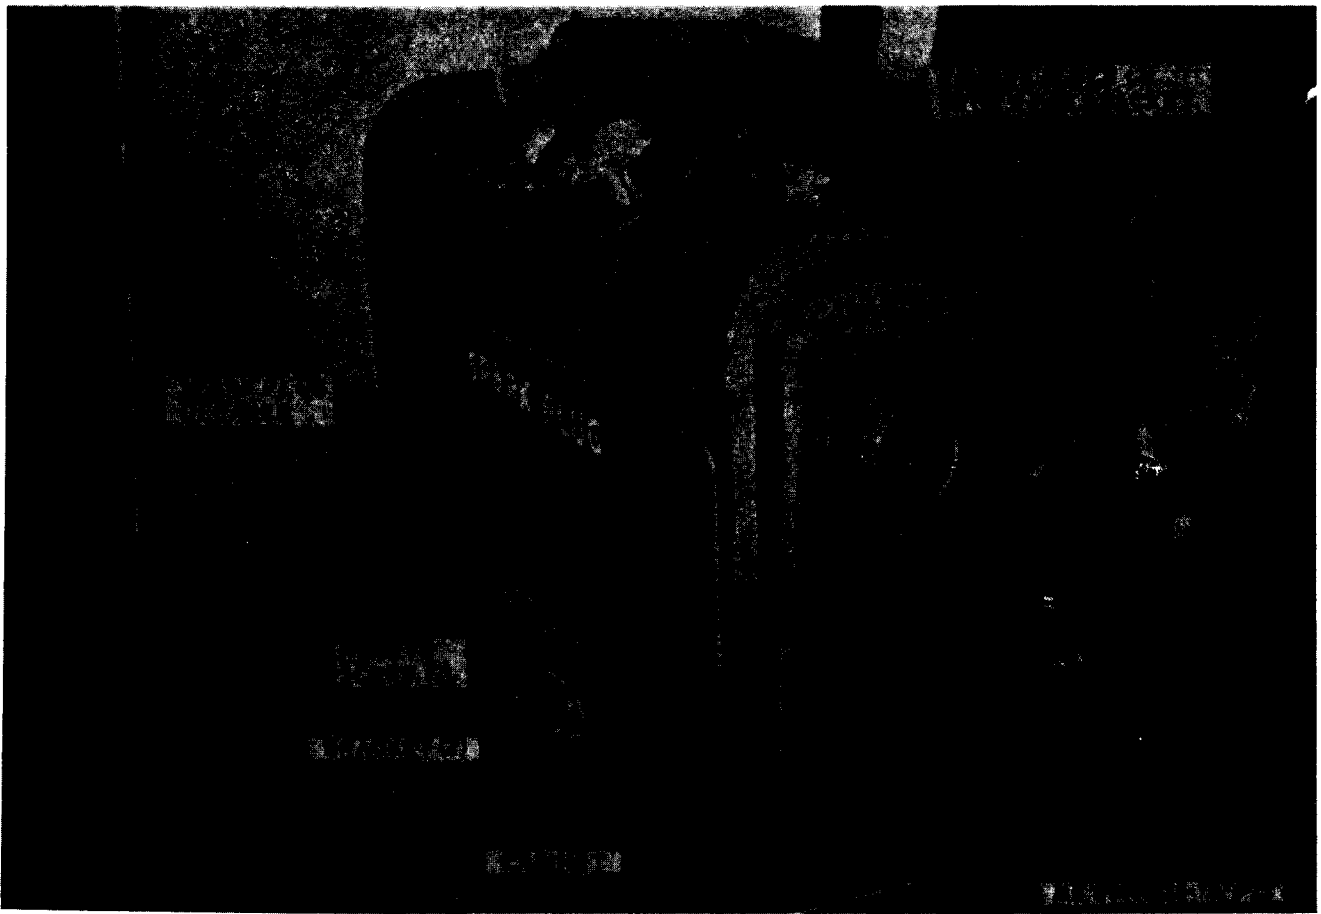

Figure 4-22. Spark plug cleaner, removal and installation.
a. *Removal.* Remove the spark plug cleaner as illustrated in figure 4-22.
b. *Installation.* Install the spark plug cleaner as illustrated in figure 4-22.